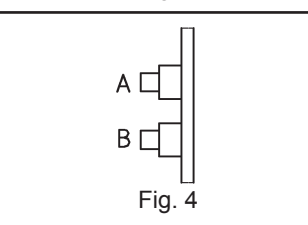

Fig. 4
- Push the PC board switch A for one second. Figure 4.
- Push the PC board switch B for one second. Figure 4.